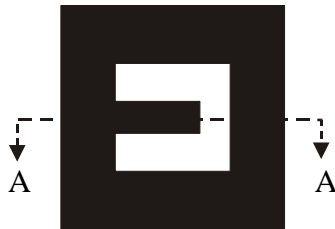

Figure 1.1
5. Using the mask shown below (Figure 1.1), sketch how the cross-section A-A would appear after Step 1.6.